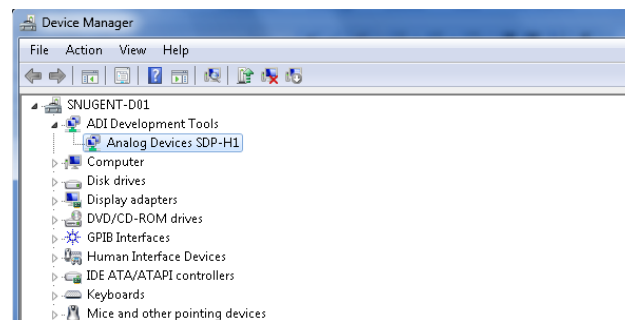

Figure 12. Device Manager:
- b. Under **ADI Development Tools**, **Analog Devices SDP-H1** should appear (see Figure 12), indicating that the EVAL-SDP-CH1Z driver software is installed and that the board is connected to the PC correctly.